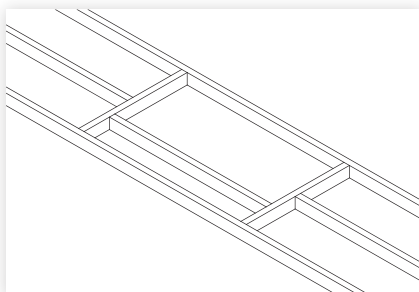

figure 3
2. Using timber of a compatible size to the existing ceiling framing (ie 90 x 45 or 140 x 45 H1.2 treated, machine gauged radiata pine), frame up the opening. It may be necessary to cut through some existing ceiling joists to achieve the required size. Ensure these are properly supported during and after cutting. Three possible arrangements are shown in figures 3, 4 & 5.